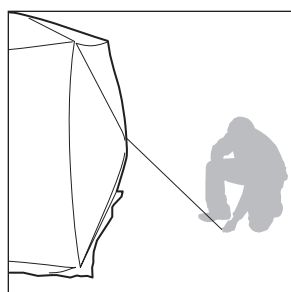

FIGURE 5
6. Your blind should be standing up completely. You may now proceed by anchoring the blind to the ground using the ground stakes and tie-down ropes provided. Ground stakes for your Barronett Blind are located in a pouch inside of the blind. The pouch is sewn in at ground level onto the interior wall near the door. Anchor loops are sewn in each corner and each side. Use the provided tie-down ropes and tie free end to ground stake. **SEE FIGURE 5.**